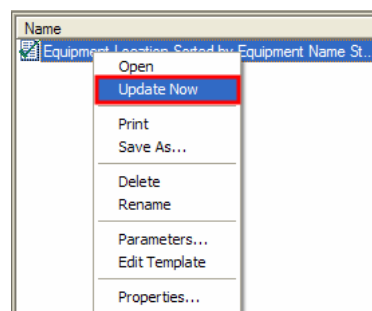

Figure 25: Update Now Command
9. In the **Detail View** of the **Drawings and Reports** task, right-click the report **Equipment Location Sorted by Equipment Name Style 1-1-0001** and select **Update Now**, as shown in Figure 25.